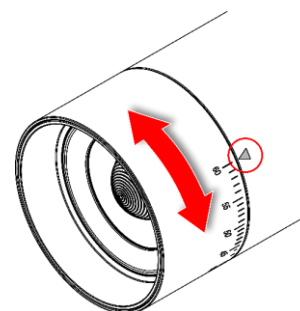

Fig. 14
Turn the **zoom ring (07)** clockwise or counterclockwise to adjust the beam angle of the light output (see Fig. 14). The adjustment range is 20–60°, at steps of 1°.